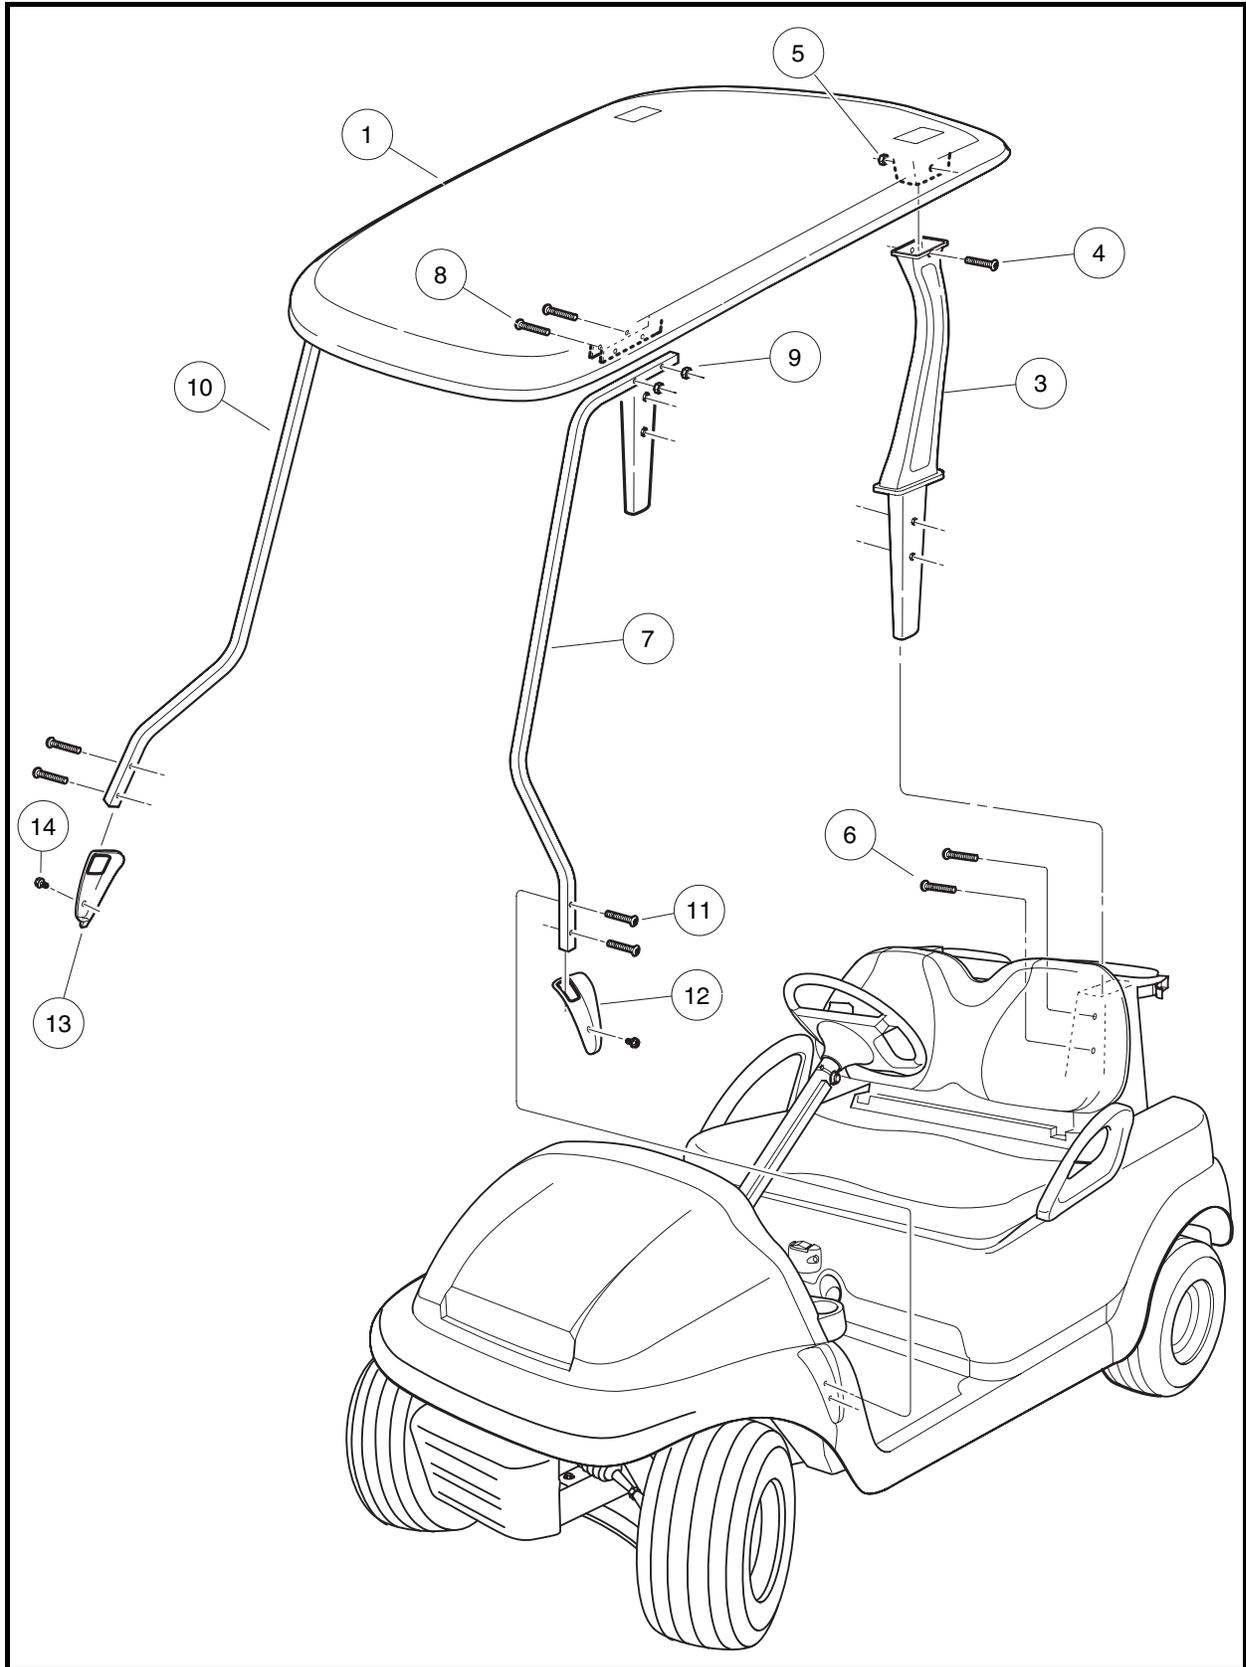

Figure 4-12 Precedent Two-Passenger Canopy
- To prevent damage to the canopy, do not remove the canopy supports (3, 7, and 10) from the vehicle without first removing the canopy (1) **(Figure 4-12, Page 4-17)**.
1. Remove the two nuts (9) and two bolts (8) from the canopy (1) and each front canopy support (7 and 10) **(Figure 4-12, Page 4-17)**.
2. Remove the nuts (5) and bolts (4) from the canopy (1) and each rear support (3).
3. Lift canopy (1) away from front canopy supports (7 and 10) and rear supports (3).
4. Remove screws (14) securing front canopy support covers to front body.
5. Slide canopy support covers (12 and 13) up front canopy supports (7 and 10) to gain access to bolts (11).
6. Remove two bolts (11) from each front canopy support (7 and 10) and remove canopy supports from the vehicle.
7. Remove two bolts (6) from each rear support (3) and pull rear supports from vehicle.
- 1.1. Ensure the front supports are properly oriented to the correct side of the vehicle as shown (**Figure 4-12, Page 4-17**). The lower profile of each support follows the profile of the vehicle. If the supports are placed on the wrong side of the vehicle, they will not follow the vehicle's profile.